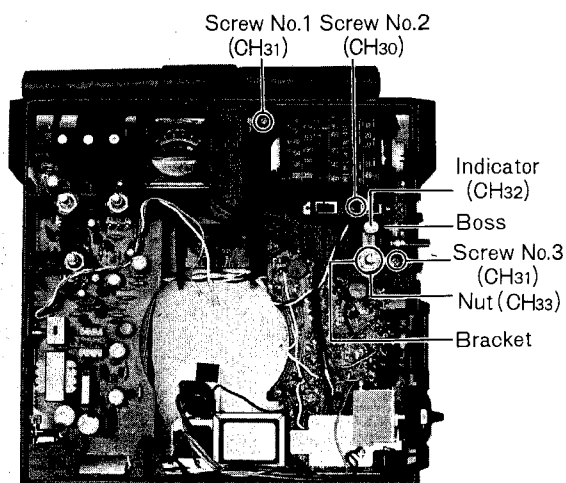

Fig. 2
3. Remove the two (2) dial drive assembly screws (nos. 1 & 3), as shown in fig. 2.
4. Remove the indicator, as shown in fig. 2.
5. Remove the dial drive assembly nut, as shown in fig. 2.
6. Remove the muting switch bracket screws, no. 2, as shown in fig. 2.
3. Place the dial drive assembly into the chassis, and insert the muting switch bracket, as illustrated in fig. 2.
5. Insert the indicator by aligning it with the boss, as shown in fig. 2.